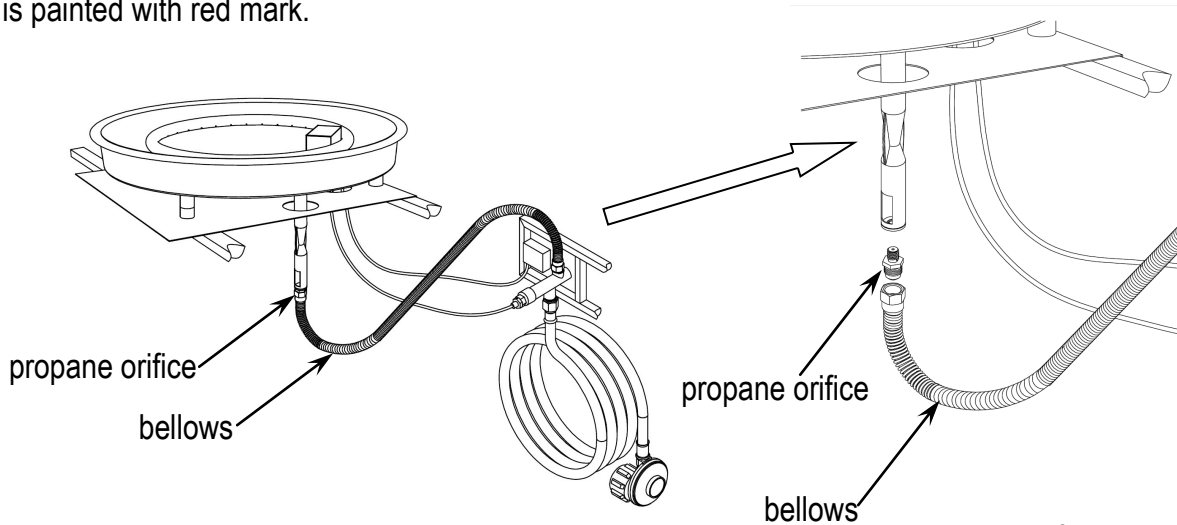

Figure 9
2. Unscrew and disconnect the propane orifice from the bellows (see Figure 9). Propane orifice (dia2.15mm size) is painted with red mark.